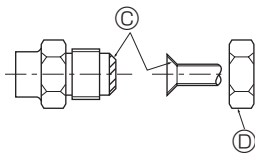

Fig. 4-2
4.2. Connecting pipes (Fig. 4-1) (Fig. 4-2)
- The indoor parts of the drain pipe should be wrapped with polyethylene foam insulation materials (specific gravity of 0.03, thickness of 9 mm, 23/64 inch or more). (Fig. 4-2)